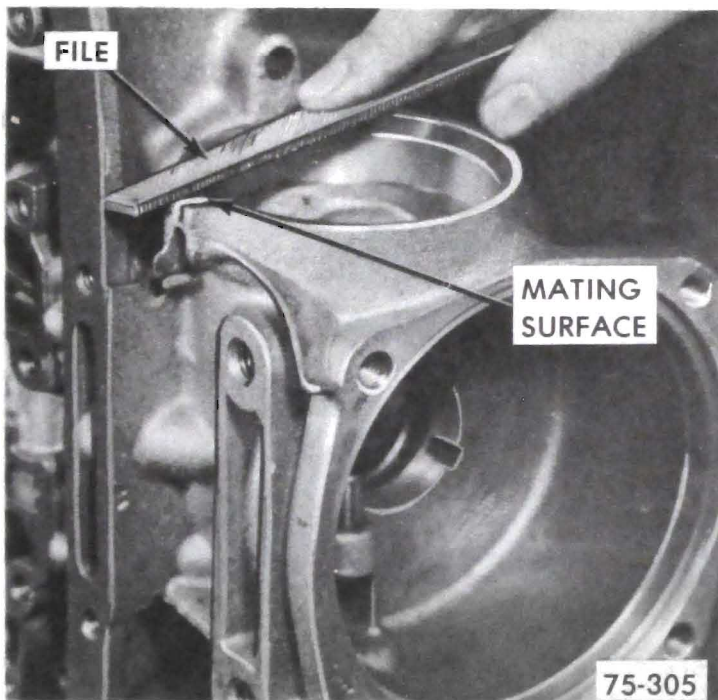

Figure 75-289
4. Clean off excess stock from the governor o-ring seal to case mating surface. See Figure 75-289.